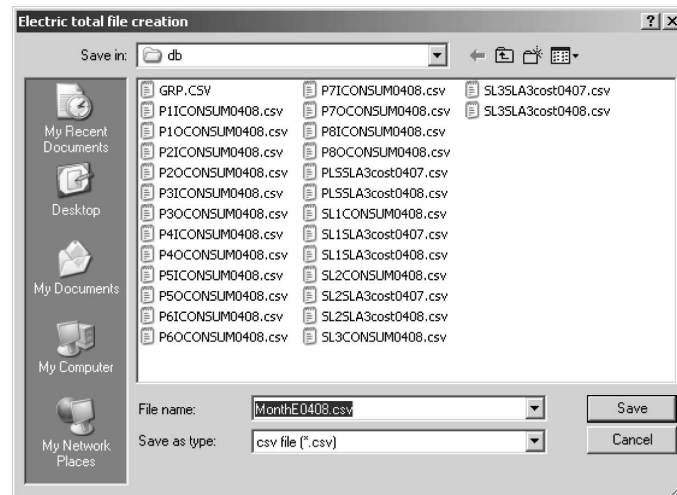

Fig.12 Input the file name dialog box
2. When you click the check box “The electric energy consumption”, Fig.12 dialog box will appear. If you want to change the file name, the folder name and the drive name, select another drive name and the folder, and type another file name that you want.